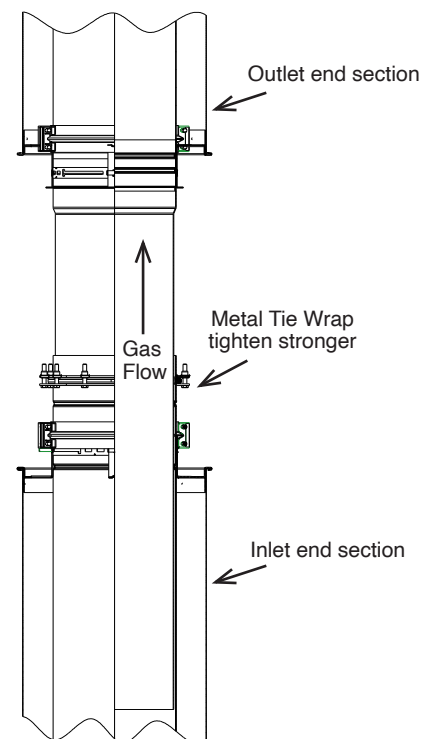

Figure 17 - Installation of Adjustable Length Steps 3 & 4
4. Strongly tighten the metal tie wrap so that the graphite packing is firmly compressed against the inner flue. See Figure 17.